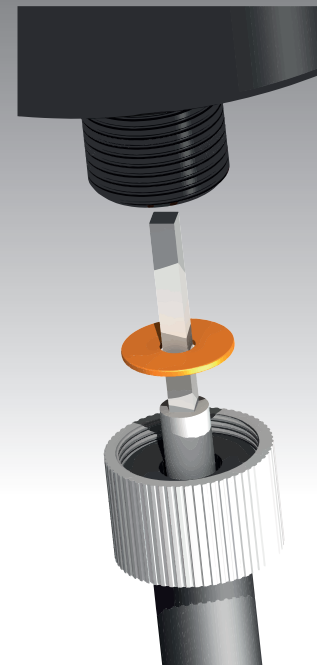

fig.2: mounting the washer on the square of the drive cable
• Connect the wires for backlight and optional indicator lights as shown in fig.2